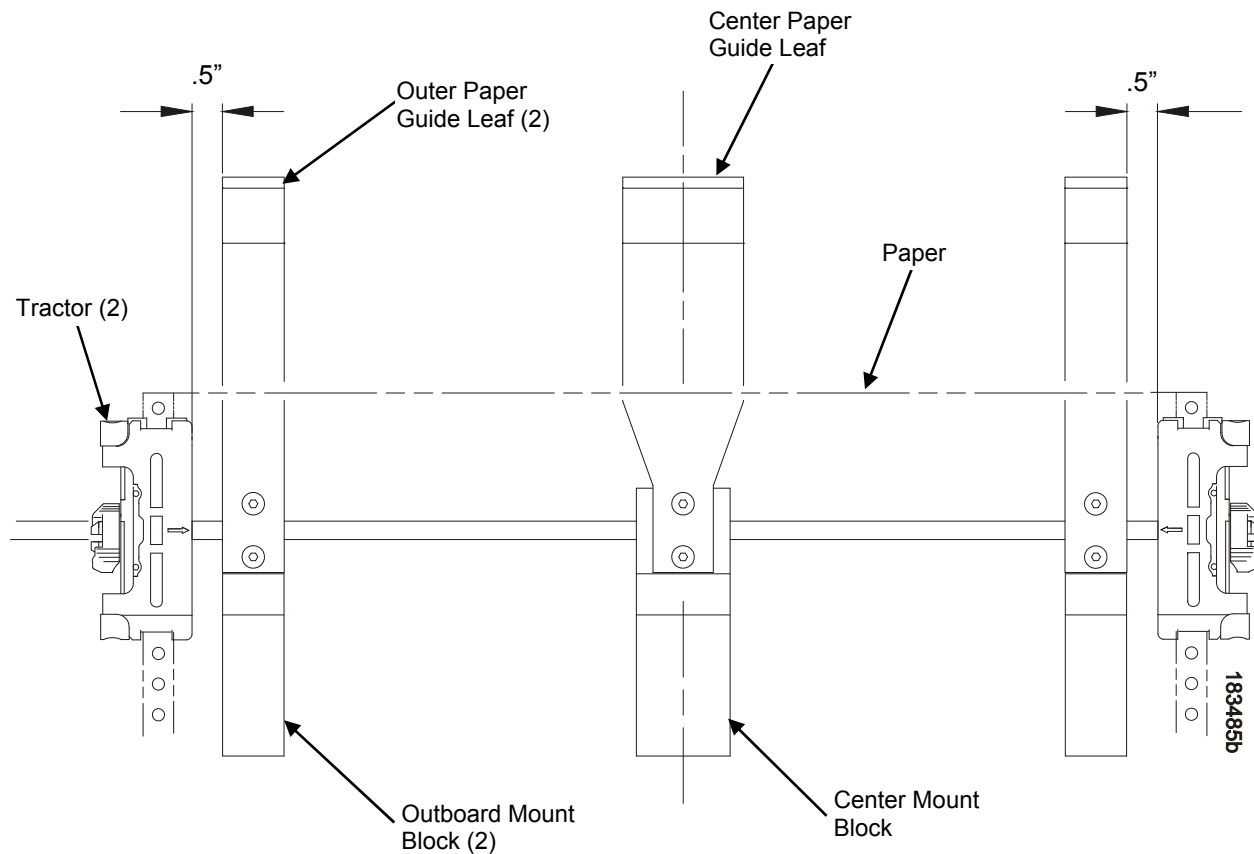

Figure 46 Adjusting Paper Guide Leaves
4. Slide the left outboard mount block so that the left outer paper guide leaf is .5 inches from the left tractor. (See Figure 46).